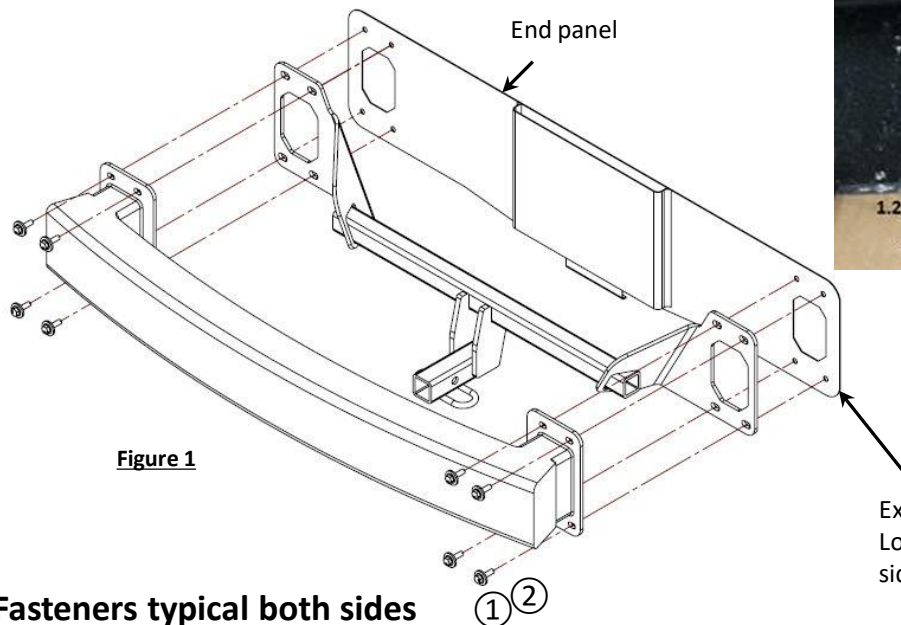

Figure 1
7. **Hitch installation:** Raise the hitch and bumper into position as shown in **Figure 1** and attach using the fasteners provided.